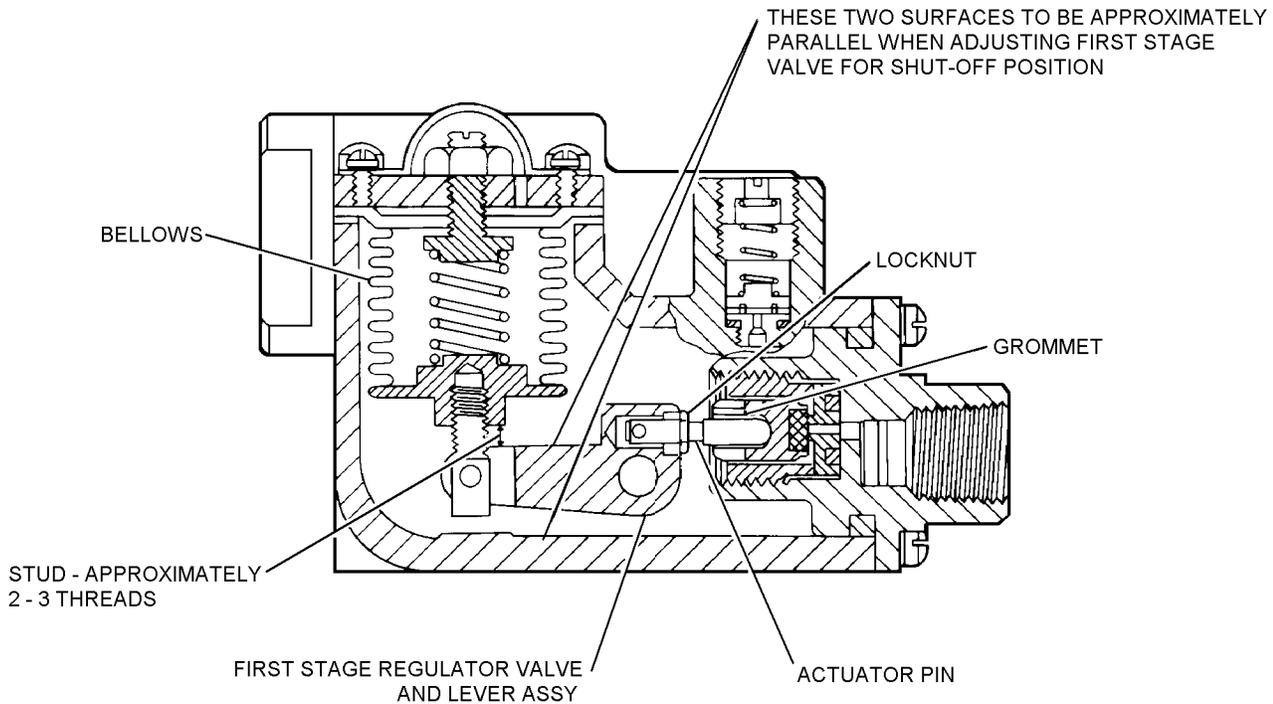

Figure 14-6. First Stage Relief Valve Adjustments
20. Thread first stage bellows assembly (102) onto valve lever assembly (99). Ensure approximately 2 to 3 threads remain shown (figure 14-6). Install gasket (103) over valve lever assembly (99) onto first stage bellows assembly (102). Insert first stage bellows assembly (102) and assembled parts through opening in regulator body (142). Apply a light film of lubricant to screw (100). Secure first stage bellows assembly and assembled valve lever assembly with washer (101) and screw (100).
6. Connect regulator inlet to N₂ input connection (18) in the altitude chamber.
7. Using low pressure regulator (N) apply 150 psig.
8. Turn inlet ON/OFF valve (L) to ON position, 0 to 160 psi pressure gage should indicate 32 to 35 psig. If pressure is not within limits, adjust shutoff position of first stage regulator valve lever assembly (99) (figure 14-6).